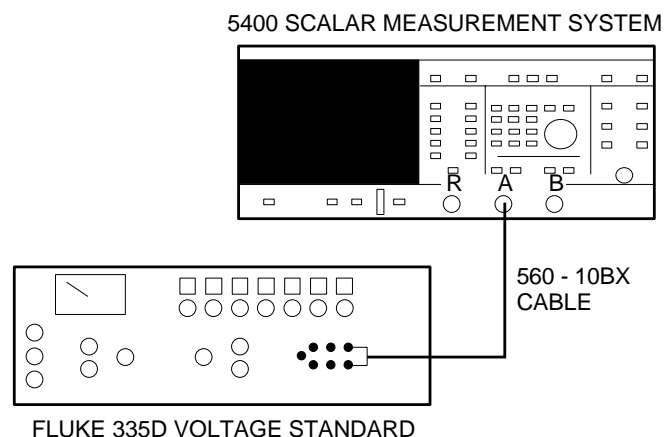

Figure 6-1. Equipment Setup for Signal Channel Sensitivity Adjustment
- Step 1** Connect the equipment as shown in Figure 6-1.